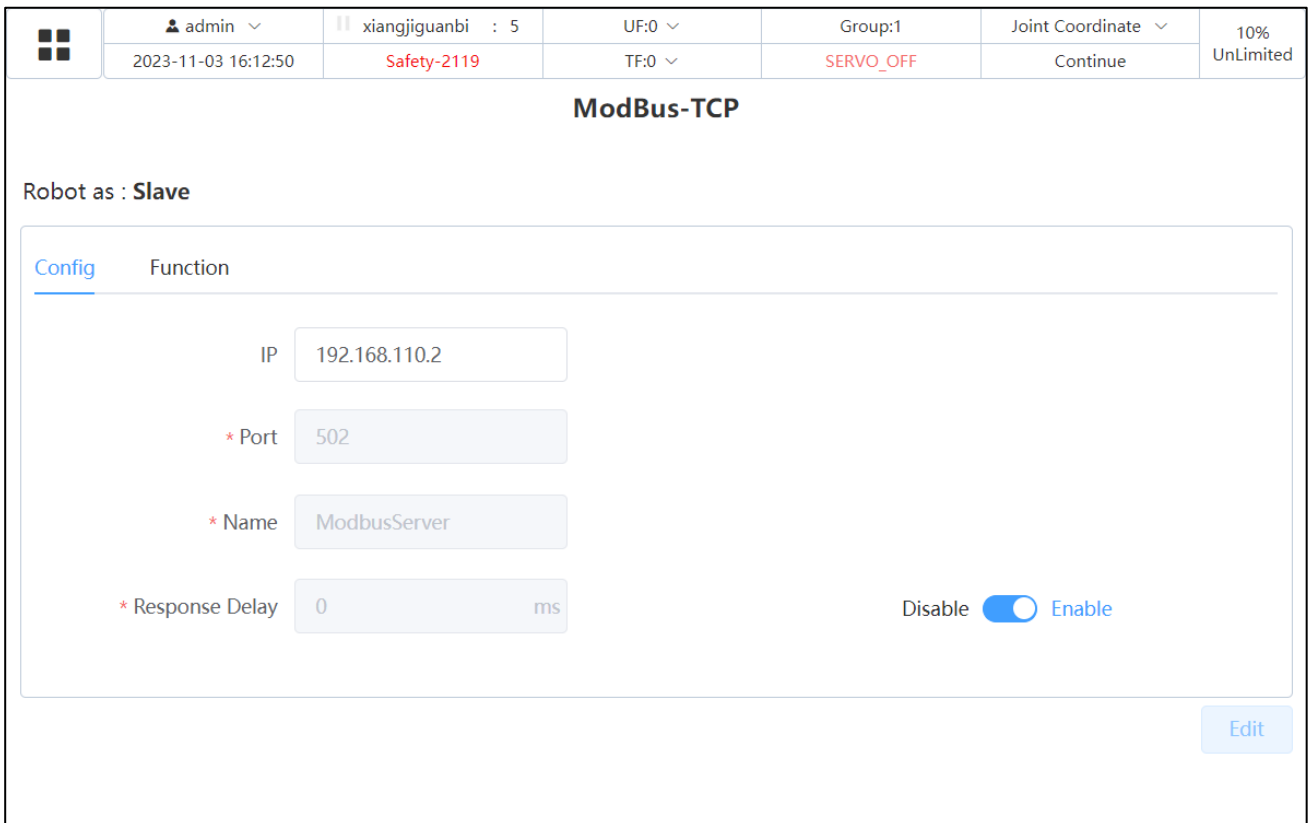

Fig. 5.9 Bus Configuration Window
1. Successively click "Menu Button" → "Communication" → "Bus Configuration" to enter the interface shown in Fig. 5.9 and turn off the slave function (do not operate it if already turned off).
3. After configuration, click "Config" to return to the interface shown in Fig. 5.9 and activate the slave function.